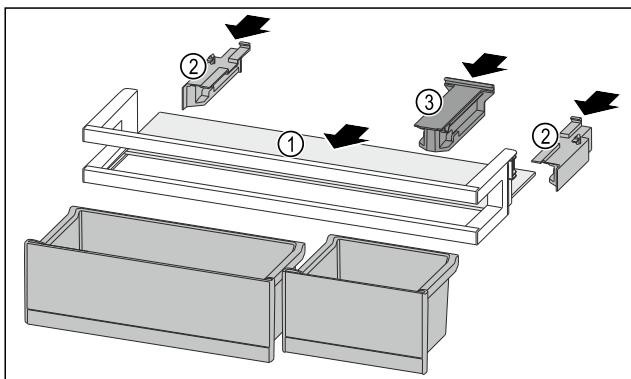

Fig. 86
- ▶ Push the shelf Fig. 86 (1) into the side recesses.
- ▶ Insert the side parts Fig. 86 (2).
- ▶ Insert the holding part Fig. 86 (3).